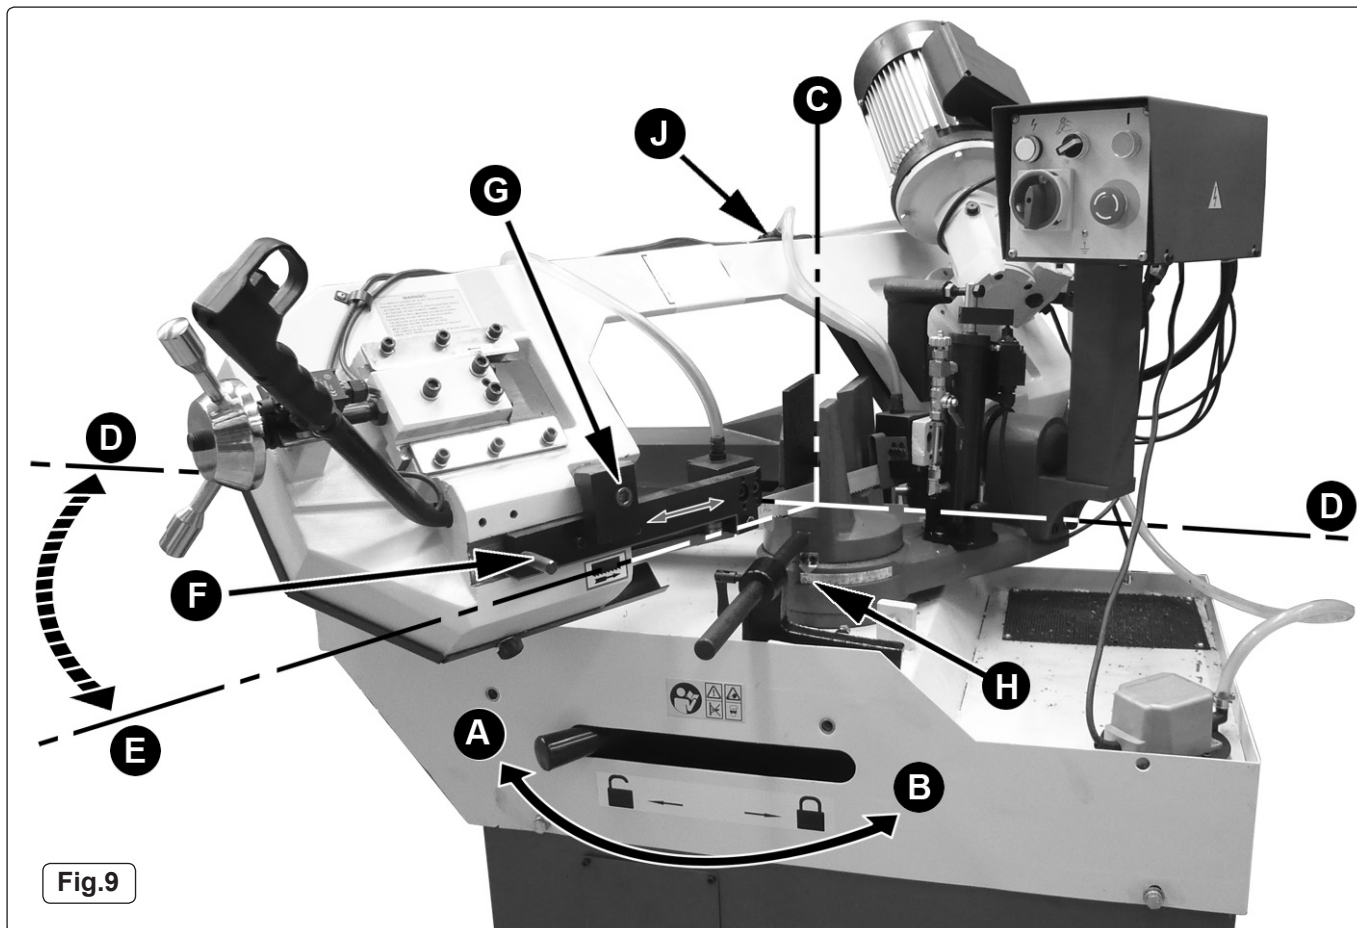

Fig.9
- 4.1.2 Coolant is drawn from the coolant tank by the coolant pump (see Fig.4 - 18) and fed through a clear plastic tube to a valve situated on the top edge of the bow casting (see 'J' in Fig.9). When the valve is opened the coolant is fed down two separate pipes which deliver the coolant directly into each blade guide. The coolant is then deposited onto the machine
**4.5 CUTTING AT AN ANGLE (See Fig.9)**
4.5.1 In order to cut at an angle, the vice remains where it is and the whole bow assembly pivots round on the machine bed. Line 'D---D' as shown in Fig.9 above represents the line of the blade before the bow is rotated.
4.5.3 Before the bow can be rotated it must be unlocked by moving the lever on the front face of the machine bed to position 'A'. The bow will now pivot around line 'C' and can be set at any angle between 0 and 45° using the scale mounted around the main pivot seen at 'H' above in Fig.9. Additionally the machine will cut at 60° but the blade must be lifted over an area of solid metal and lowered back into the 60° groove. The area of metal between 45° and 60° is necessary to give adequate support to the workpiece either side of the blade especially on round sections.
4.6.1 Unlock the main pivot by moving the lever seen in Fig.9 to position 'A'.
**4.8 ADJUSTING THE BLADE GUIDE (See Fig.9)**